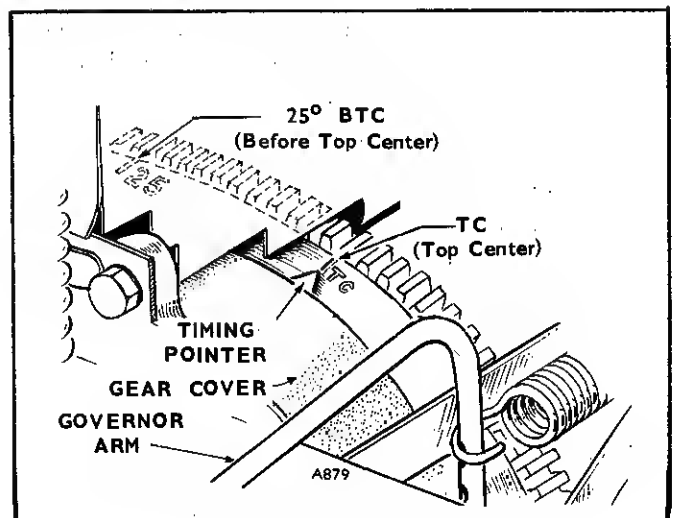

FIGURE 34. TIMING MARK
To adjust the breaker gap, rotate the crankshaft clockwise until the 55° ATC mark on the flywheel matches the timing pointer (Fig. 34).
2. Rotate the flywheel clockwise until the TC mark on the flywheel approaches the timing indicator (Fig. 34). Then slowly rotate the flywheel clockwise until the light goes out indicating that the points have opened. This is the ignition point. If timing is correct, ignition will occur at 5° ATC.